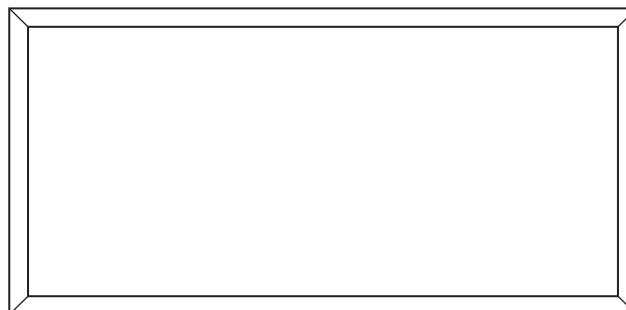

Fig. 13.3
- (ii) Fig. 13.3 shows the sides of the tray ready to be glued at each corner.
Add sketches and notes to Fig. 13.3 to show how the sides could be held in position while the glue sets. [2]